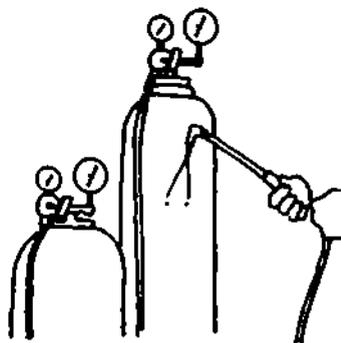

Figure 18-14. Opening Oxygen Needle Valve and Adjusting Flame
l) Open the oxygen needle valve and adjust the flame (Figure 18-14).